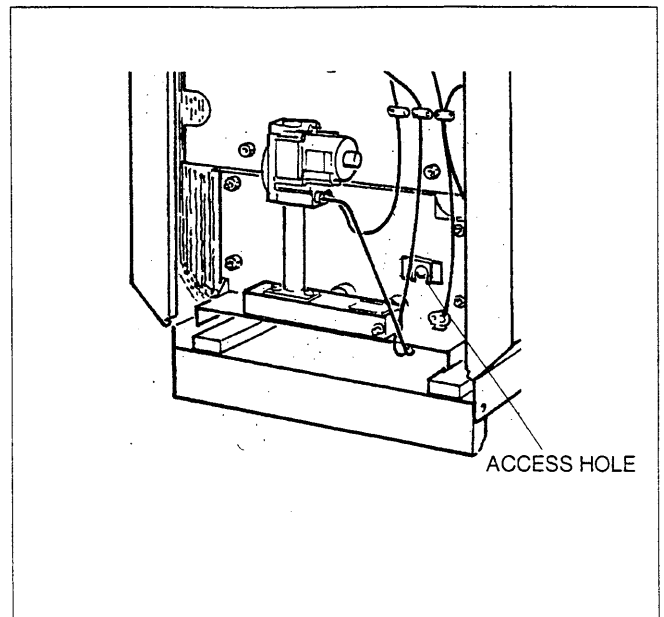

Fig.8
36. Wait five (5) minutes to clear out any gas. Then smell for gas, including near the floor. If you smell gas, **STOP!** Follow "B" in the safety information printed on page 5. If you do not smell gas, go to the next step.
37. Locate the pilot assembly by looking through the access hole in the burner assembly plate, fig.8.